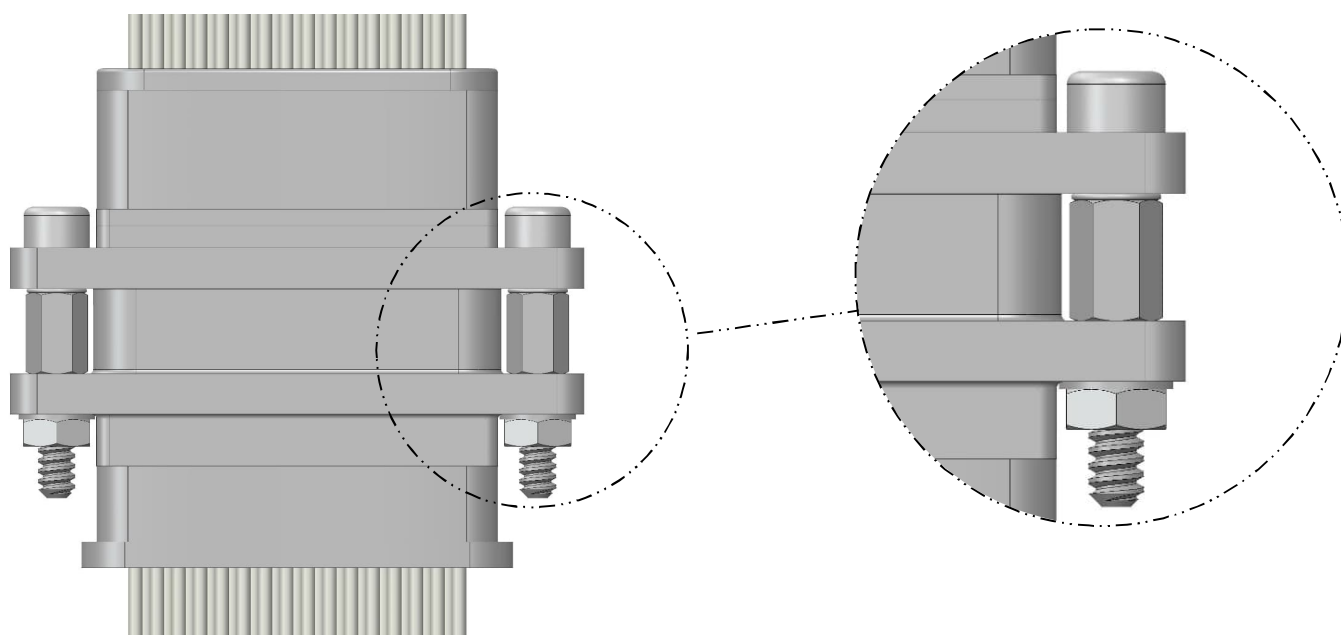

Figure 4
4. Tighten until you feel the connector bottom and torque screws to the following values (See Figure 4):